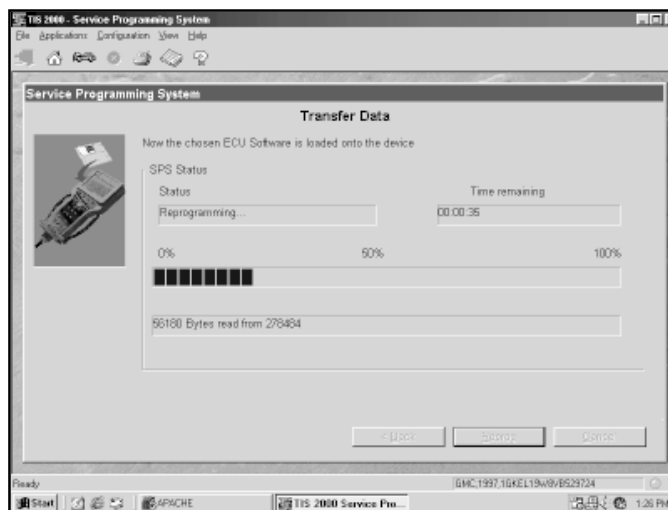

Figure I-39, Transfer Data
14. A transfer data screen will appear (Figure I-39). The PC will automatically load the calibration into the Tech 2.